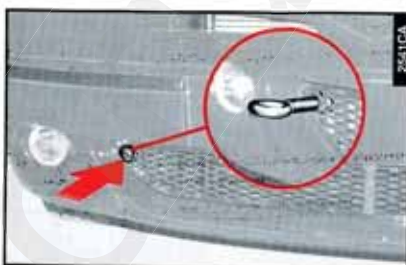

fig. 45
- On the front end firmly screw the ring in its housing as shown in fig. 45.